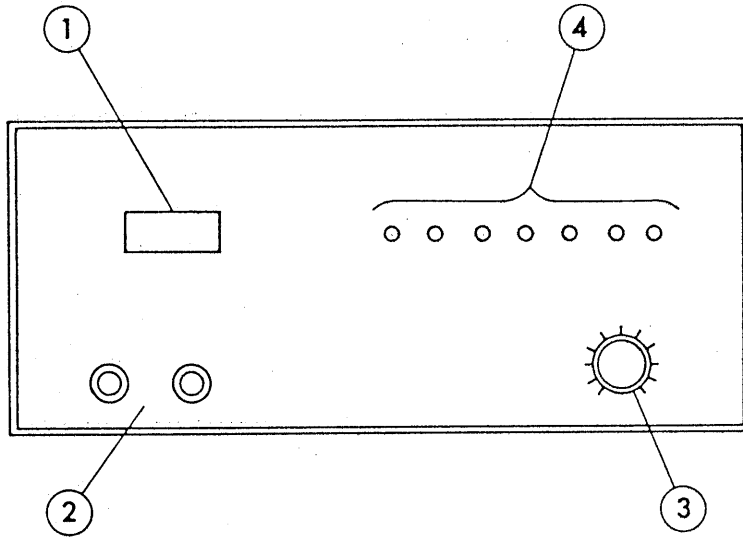

Figure 3-1. Front panel
3.1 Description of Front Panel (See Figure 3-1.)
① POWER switch: